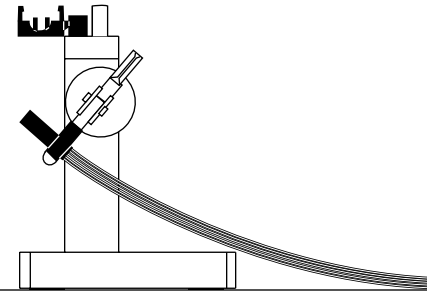

Figure 14
**Note:** If conditions prevent you from hanging the 900 μm assembly vertically, position the 900 μm assembly horizontally across a work surface, keeping the tubes as straight as possible (Figure 14).